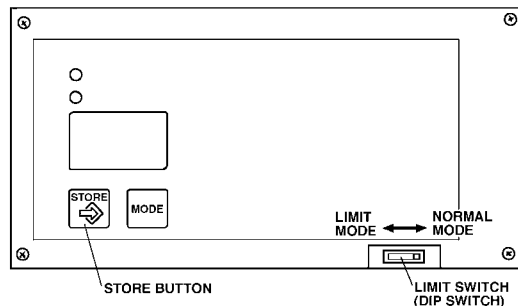

Fig.10-1 Chair Preset panel (Preset Panel Cover is Removed)
SP-CLEO can be set two preset positions.(Fig.10-1)
2. Mouth Rinsing Backrest Position Adjustment (Fig.10-1)
3. Reprogram of Limit Positions (Fig.10-1)